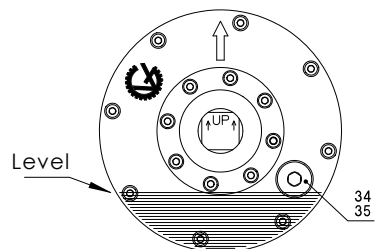

Fig. 3b
5. Refill the drummotor with the recommended type and quantity of oil. The radial arrow on the drum endcap where the filler plug is located must point upwards to check for the correct oil level. With the arrow in the 12 o'clock position oil should just 'weep' out the filler plug hole (refer to Fig. 3b).